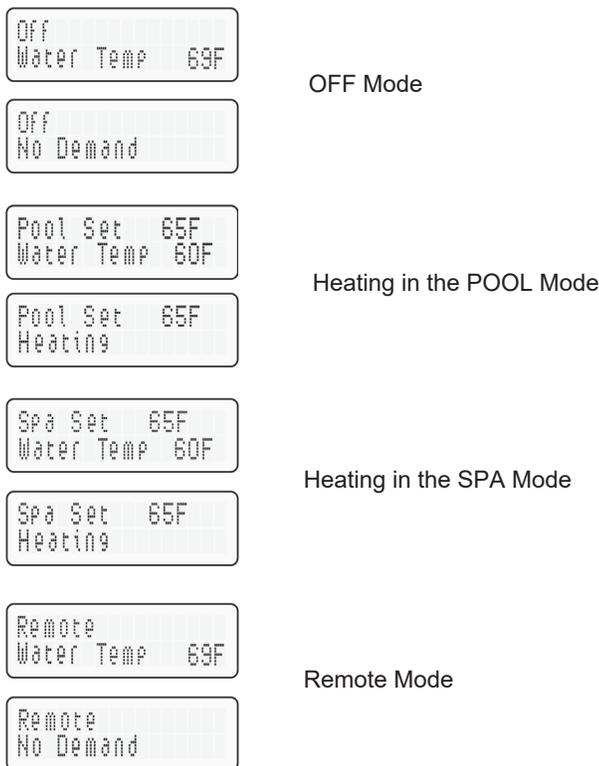

Figure 45. Remote Control Menu - Remote Operation
**⚠ CAUTION: Before installing remote controls to the heaters, read the following:** The digital thermostat model is remote-ready in most cases. The digital liquid crystal display (LCD) shows the actual pool temperature, operating status, and service codes. See Figure 45. The touch pad on the control panel allows you to select the desired pool or spa temperature. It also indicates when a remote system is controlling the heater by displaying **Remote** in the display. When connecting the heater to a remote system, identify whether it is a two- or three-wire remote system. Select the appropriate instruction listed below to properly install the remote to the heater.